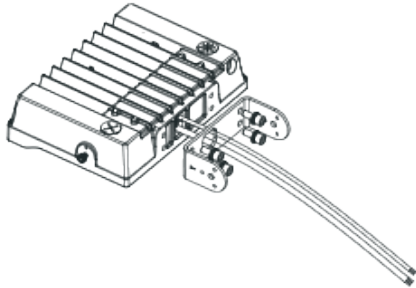

figure 6.3
Step 2: Run the glue wire through the hole in the mounting bracket and secure the fixture and bracket with an inner hexagon screw (Watch out not to scratch the glue wire) (Figure 6.3); Tighten the other bracket with screws. (Figure 6.4)